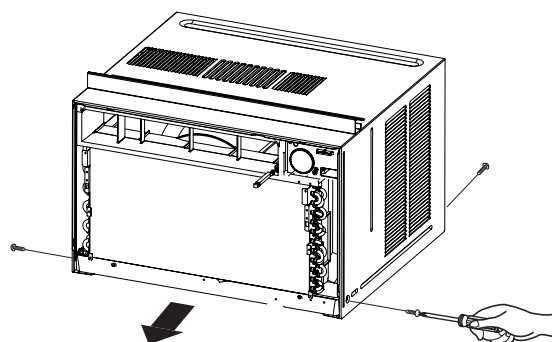

Figure 3
3. Pull the base pan forward. (See Figure 3)